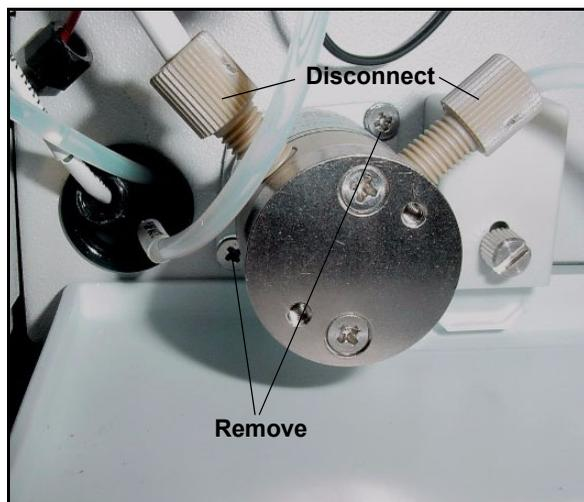

Figure 5-23. Eluent Valve
4. Disconnect the two liquid lines connected to the eluent valve (see Figure 5-23).
5. Unscrew and remove the two screws that attach the valve to the component panel (see Figure 5-23). Save the screws.